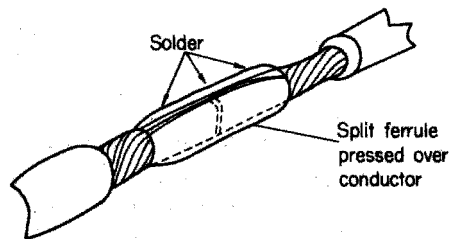

Fig. 14.8 Joint using split ferrule
- 3 By a soldered straight-through joint using a split ferrule (Fig. 14.8).